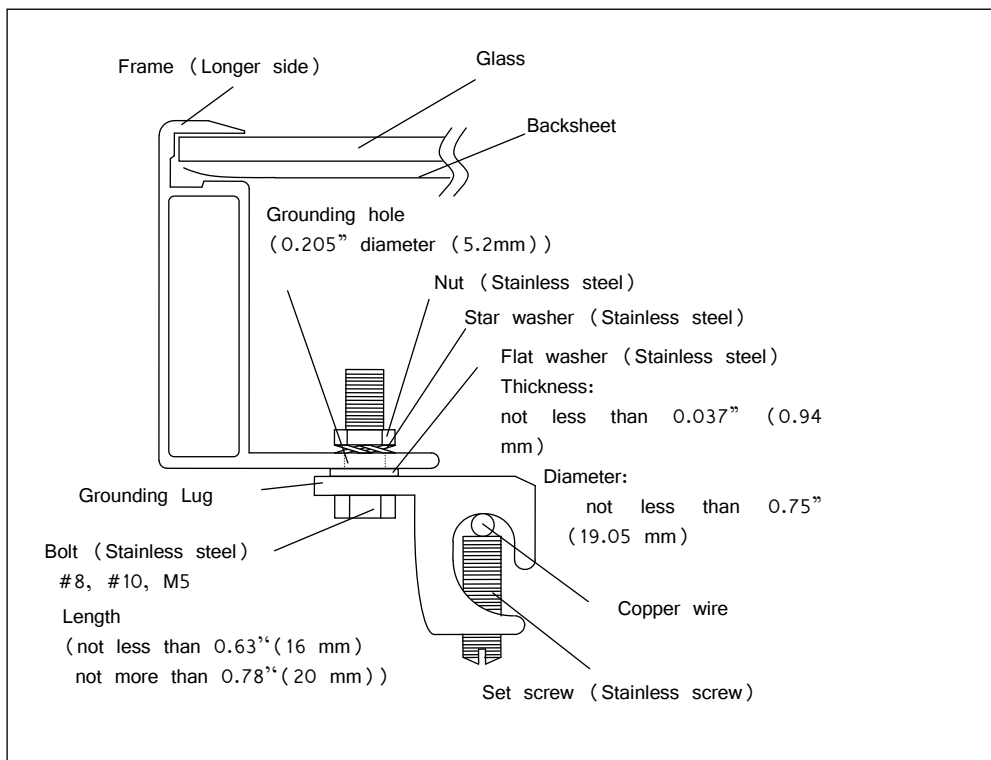

Figure 3.3
Using bolt and nut (see Figures 3.3 and 3.5)
- Attach grounding lug to module frame using a stainless steel bolt and lock-nut as shown in Figure 3.3.